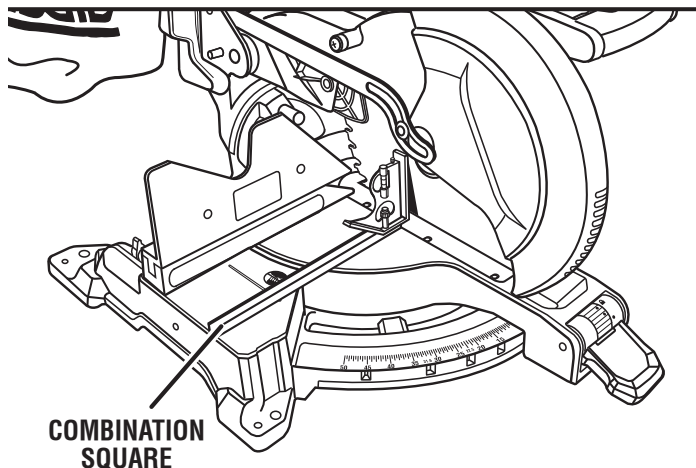

Fig. 26
- If the top or bottom of the saw blade angles away from the square as shown in figures 26 and 27, adjustments are needed.